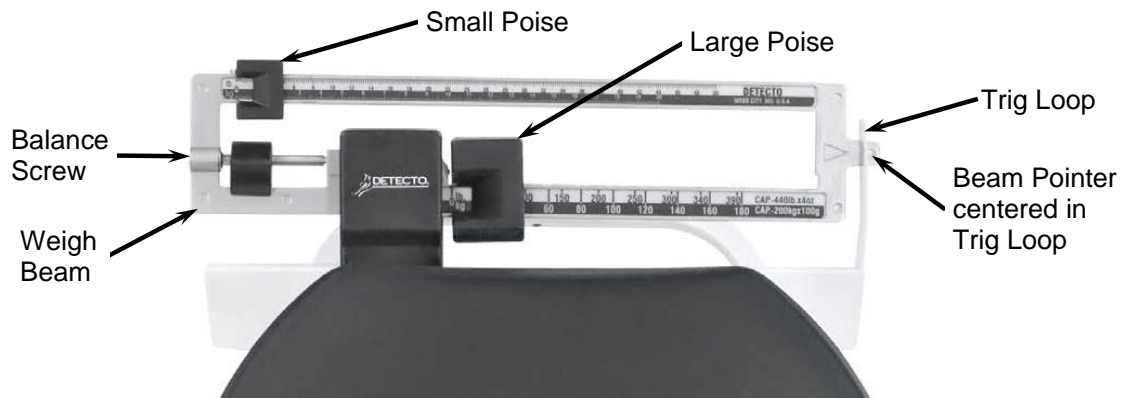

Figure 3 - View showing components for balancing scale before normal operation.
3. If the beam pointer does not remain centered, turn the balance screw (shown in Figure 3) to the right or left using a flathead screwdriver until the beam pointer remains centered within the trig loop.
2. Move both the Small Poise and the Large Poise to the Zero position. Make sure the Beam Pointer is in the center of the opening in the Trig Loop. Refer to Figure 3.
Zero balance out of adjustment	<ul style="list-style-type: none"> The weighing beam must be balanced so the beam pointer comes to rest in the center of the trig loop when both the small and large poise is set at zero (far-left position). Refer to Figure 3 and BALANCING THE SCALE instructions.